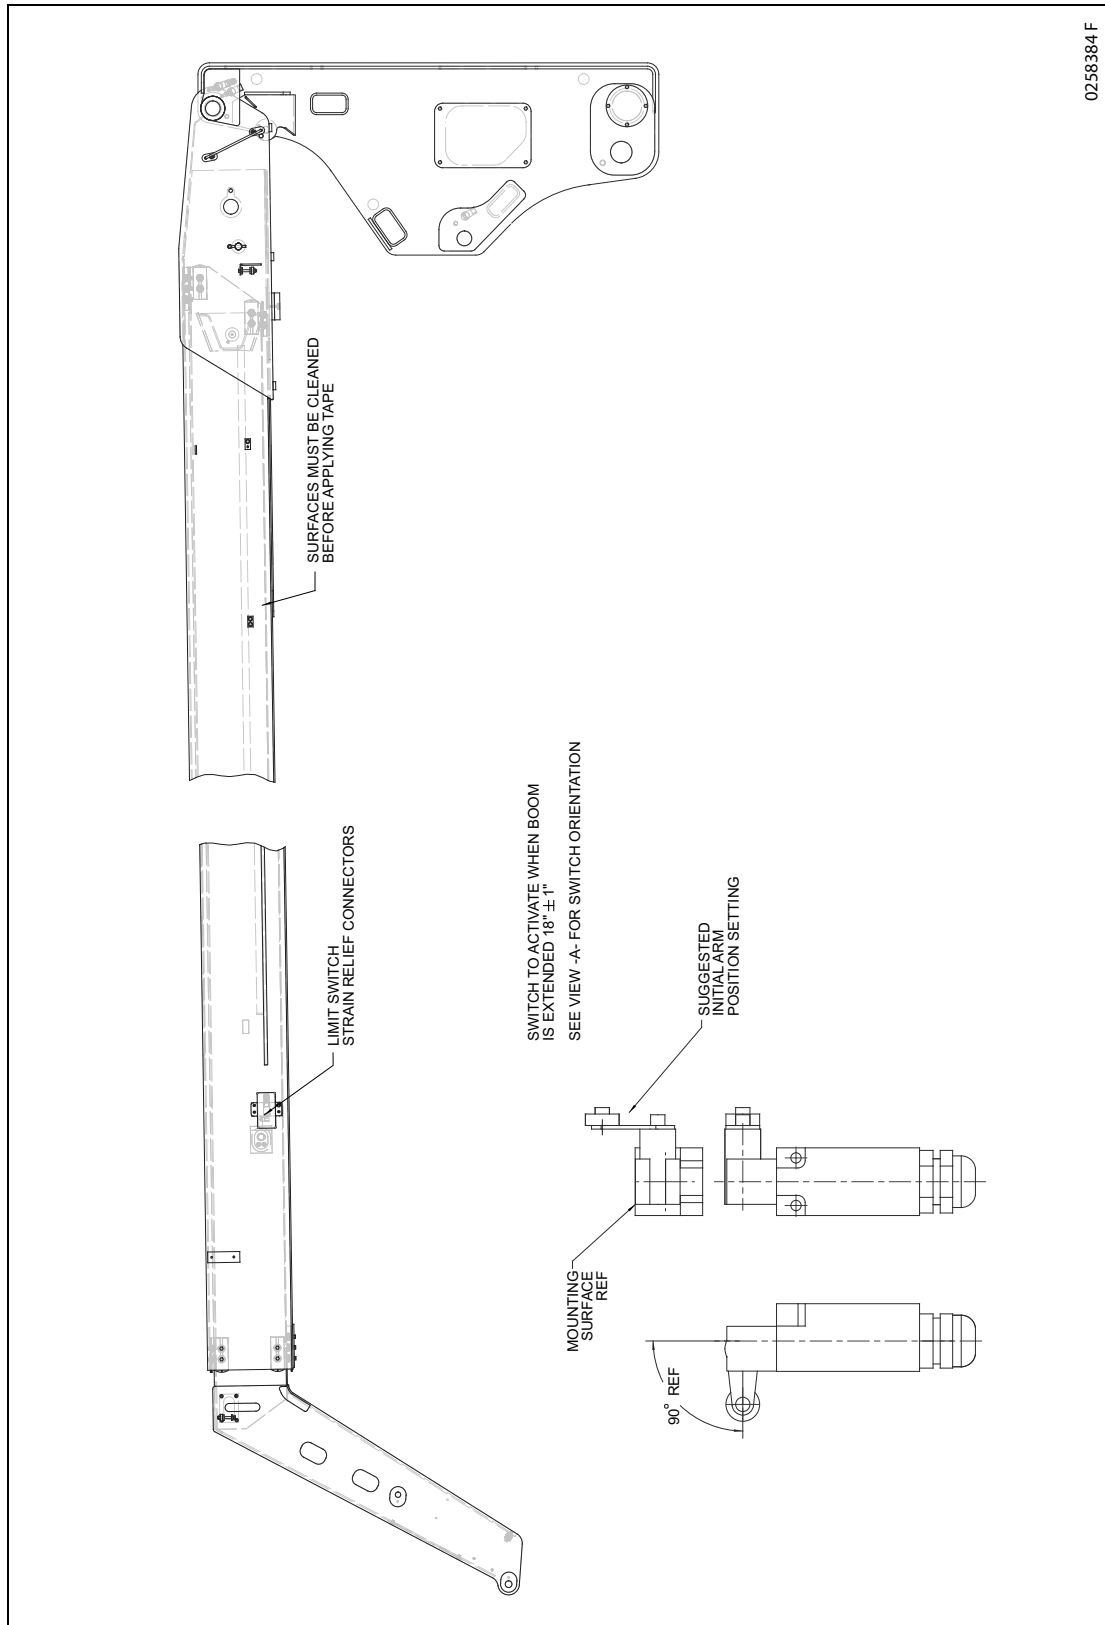

Figure 4-30. Transportation Switch Installation (CE only)
3. Lower the tower boom until the limit switch resets. This should be 2 to 7 degrees below where the switch was activated. (See Figure 4-30. and Figure 4-31. for adjustments).